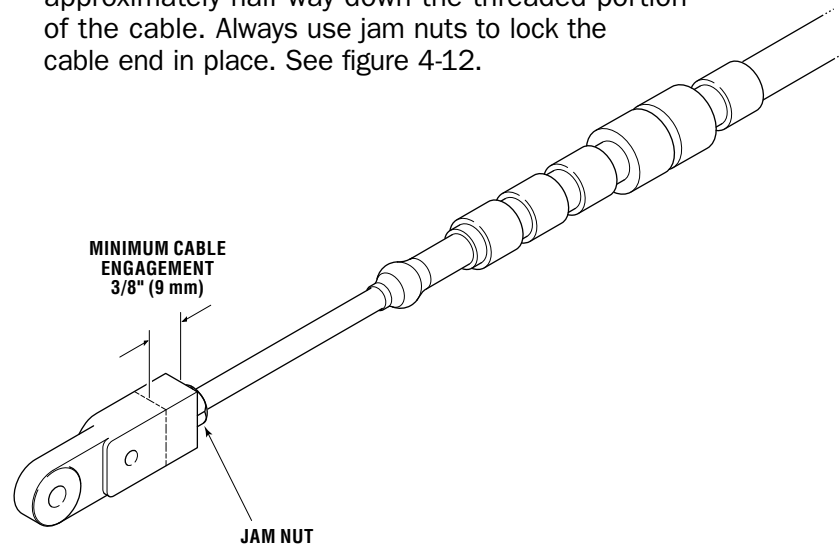

Figure 4-12. Cable End, engine side installation.
2. Connect the cables to the engine using the appropriate adapters. For new adapter kits, refer to the instructions provided with the kit. If reusing the existing cable ends, position the cable ends approximately half way down the threaded portion of the cable. Always use jam nuts to lock the cable end in place. See figure 4-12.
There must always be at least 3/8" of thread engagement on the engine side cable end. See figure 4-12. If correct adjustment cannot be achieved while maintaining 3/8" of thread engagement, longer cable ends may be required.
2. Connect the cables to the engine using the appropriate adapters. For new adapter kits, refer to the instructions provided with the kit. If reusing the existing cable ends, position the cable ends approximately half way down the threaded portion of the cable. Always use locknuts to lock the cable end in place (see figure 4-12). In most cases the original engine adapter may be re-used. In some cases they may not provide adequate adjustability. See Table 4-1 for engine adapter kit part numbers.